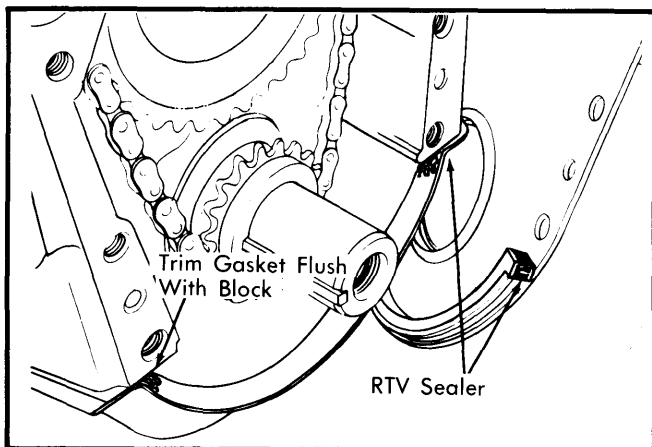
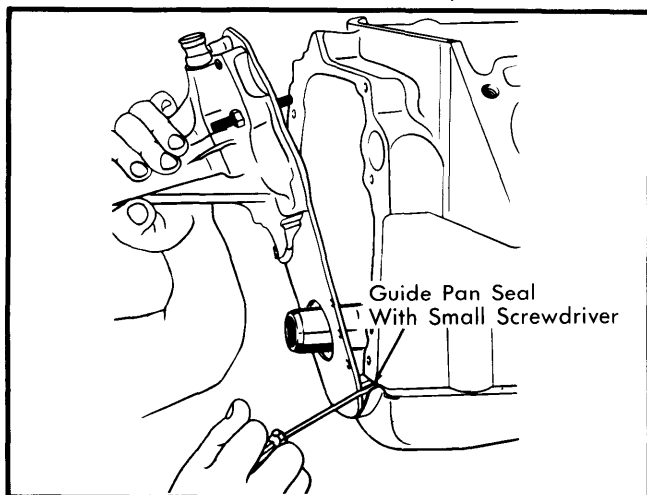

Fig. 7 Pan and Cover Seal Installation
Fig. 8 Front Cover Installation
2) Apply sealer at junction of block, pan and front cover. See Fig. 7. Install front cover pressing downward to compress seal. Rotate cover left and right and guide pan seal into cavity using a small screwdriver. See Fig. 8.